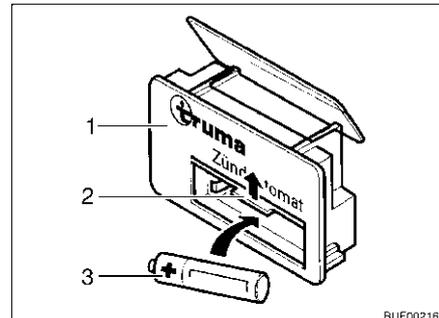

Fig. 143 Automatic ignition
- Push battery chamber cover (Fig. 143,2) on the automatic ignition (Fig. 143,1) upward.
- Insert a new battery (Fig. 143,3) of the same type, correctly aligned (+/-), into the battery chamber of the automatic ignition. Only use temperature resistant (+70 °C) and leak-proof Mignon batteries.